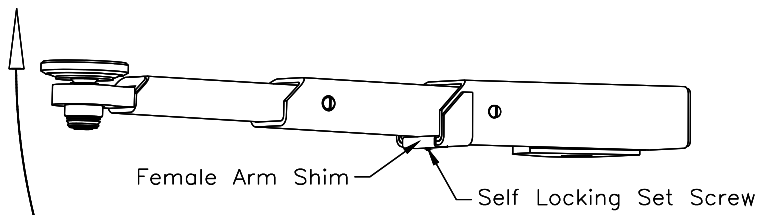

Fig. 11 – Arm Shim, 3-Stage
28. Extend the arm fully and lift up on the male portion, **Fig. 11**.